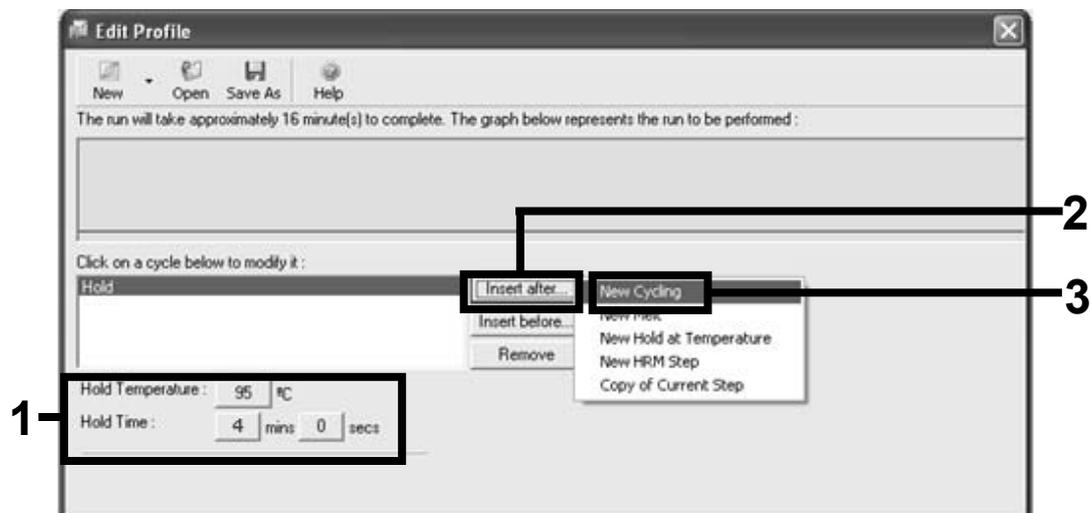

Figure 5. Initial incubation step at 95°C.
- Change the "Hold Temperature" to 95°C, and the "Hold Time" to 4 mins. Click the "Insert After" button and then select New Cycling (Figure 5).